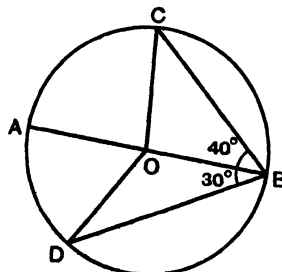

FIG. 35. DIAGRAM FOR EXAMPLE 6
6. Draw a circle with centre O and diameter AB. Make an angle ABC equal to 40° , and, on the other side of AB, an angle ABD equal to 30° . Join OC and OD, Fig. 35. Write down the sizes of all the angles in your figure. Check by measuring them. Join AC and AD. Write down the sizes of the new angles you have made and check by measurement.